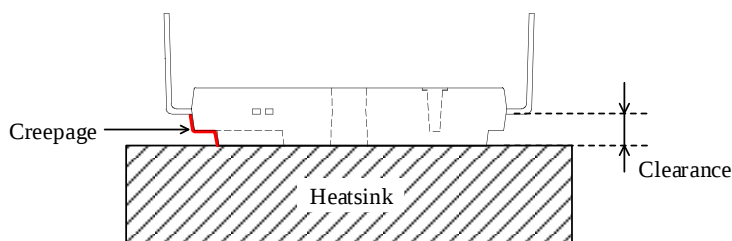

Figure 6-1. Insulation Distance Definitions
| Clearance (1)   | Between heatsink and leads. See Figure 6-1. | 3.0  | 3.1  | —    | mm   |